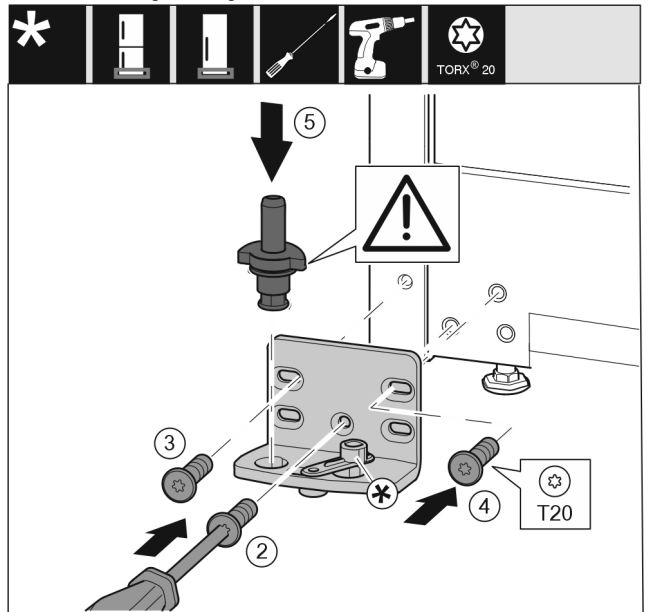

Fig. 14
- ▶ Place the bearing bracket on the other side and screw it in using the T20 screwdriver. Start with screw 2 at the bottom in the middle. Fig. 14 (2)
- ▶ Screw in screws 3 and 4. Fig. 14 (3,4)
- ▶ Insert the bearing pin completely. Make sure that the latching lug is pointing to the rear. Fig. 14 (5)